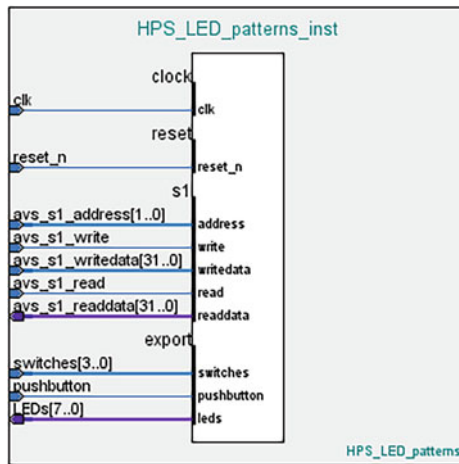

Fig. 6.4: HPS_LED_Patterns component in Platform Designer with signals interpreted correctly
- d: Click on the **Block Symbol** tab. You should see all the signals in your entity that have now been interpreted correctly as shown in Fig. 6.4.